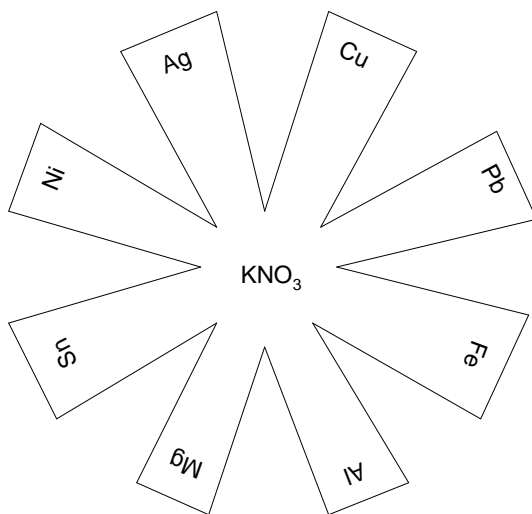

Figure 1. A Filter Paper Galvanic Cell
1. Obtain a 9 cm filter paper and make a cell template according to Figure 1. Do not fold the paper and **use only pencil** to draw on it. Do not erase.
2. Write on each sector (using pencil only) the chemical symbol of each metal used in the experiment, as shown in figure 1.